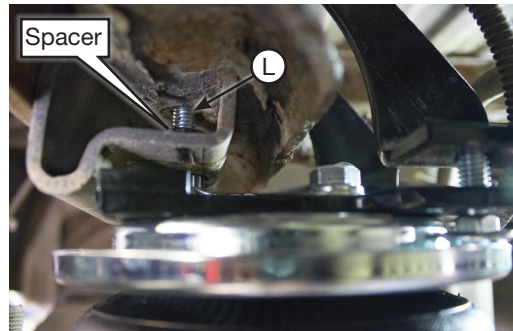

fig. 15
- Set the driver's (left) side assembly onto the jounce bumper strike plate (Fig. 17). Raise the axle up just enough to insert the long carriage bolt (L) and correct spacer (BB or CC) that is installed in the upper bracket through the existing jounce bumper hole in the bottom of the frame (Fig. 15). At the same time, line up the upper brace previously installed onto the remaining two carriage bolts (O) in the upper bracket. Do this just enough for the carriage bolt to hold the assembly into position on the jounce bumper strike plate.